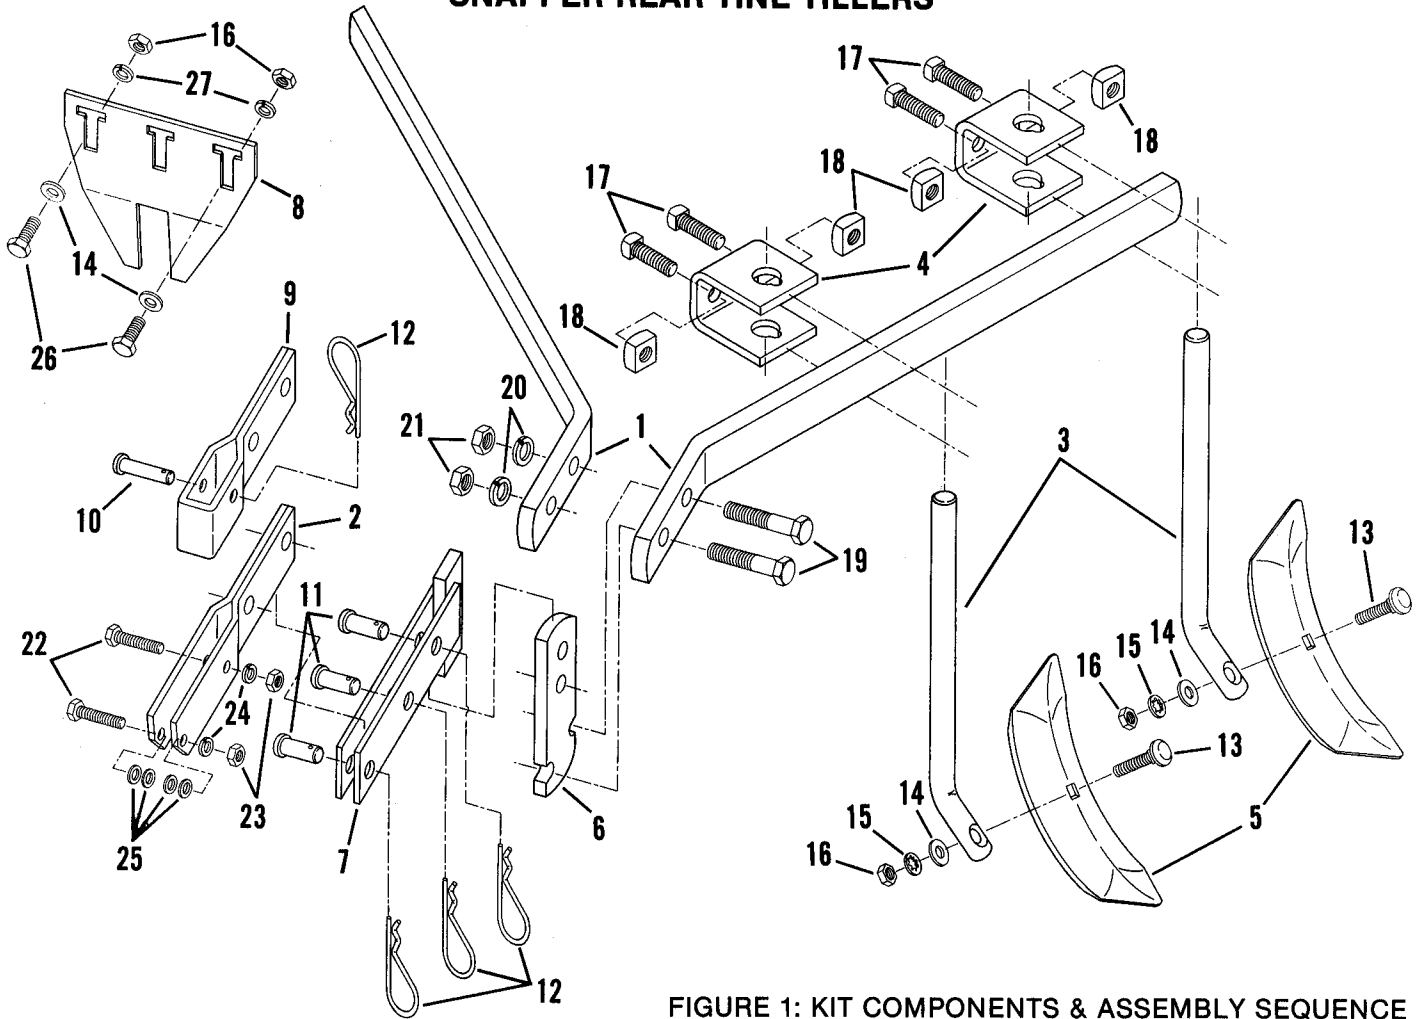

FIGURE 1: KIT COMPONENTS & ASSEMBLY SEQUENCE
STEP 1: Remove the depth bar retaining hardware and the tiller chain case bolt directly below it as shown in figure 1.